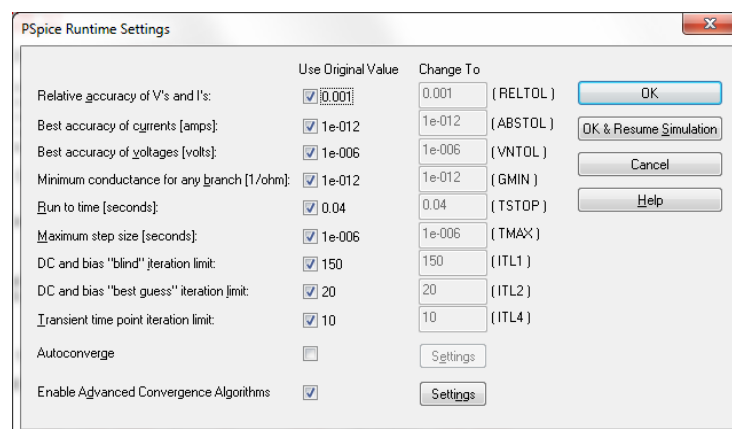

Figure 11
5. In case you encounter convergence error, turn on the autoconverge option (Figure 11) and click “OK”. Then restart the simulation.